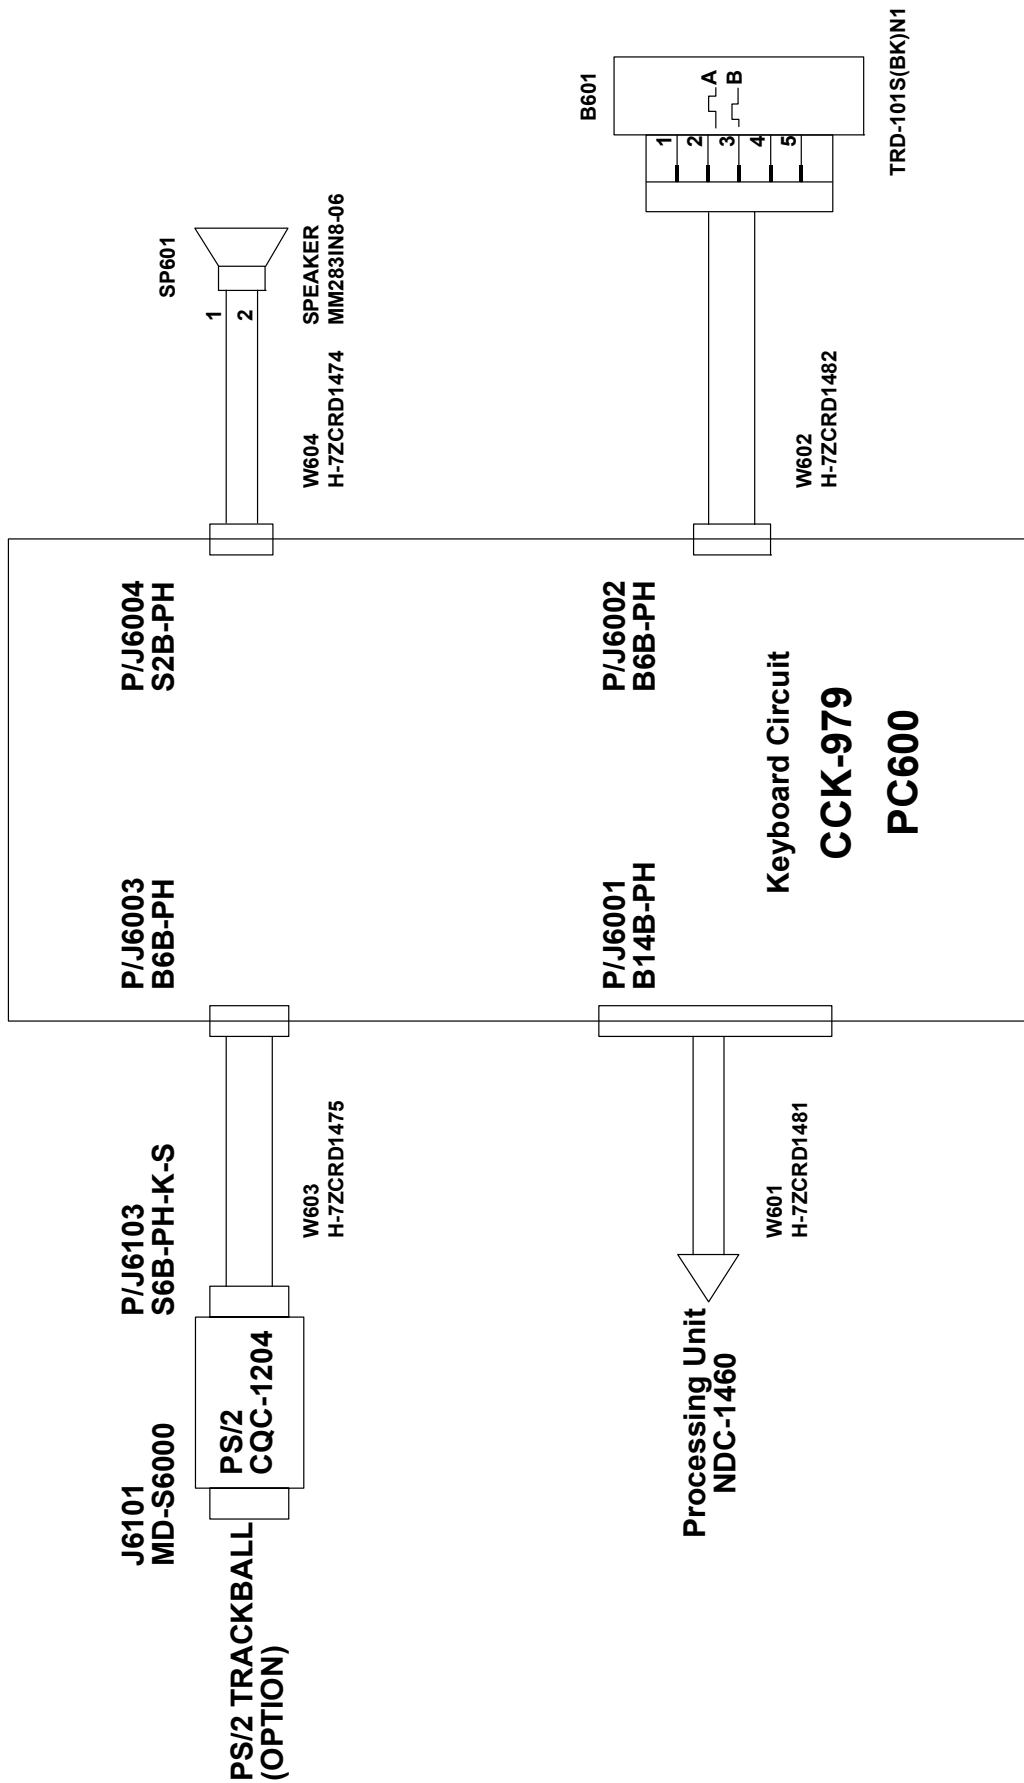

Figure 7 Keyboard Unit, NCE-7699A Inter-connection Diagram
- FIGURE 7 KEY-BOARD UNIT, NCE-7699A INTER-CONNECTION DIAGRAM**